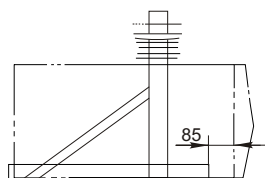

Fig.2
- A wooden frame as shown in fig.1 is advisable if the appliance is installed through a window. The installation bracket as shown in fig.2 should not be welded with the window sash.